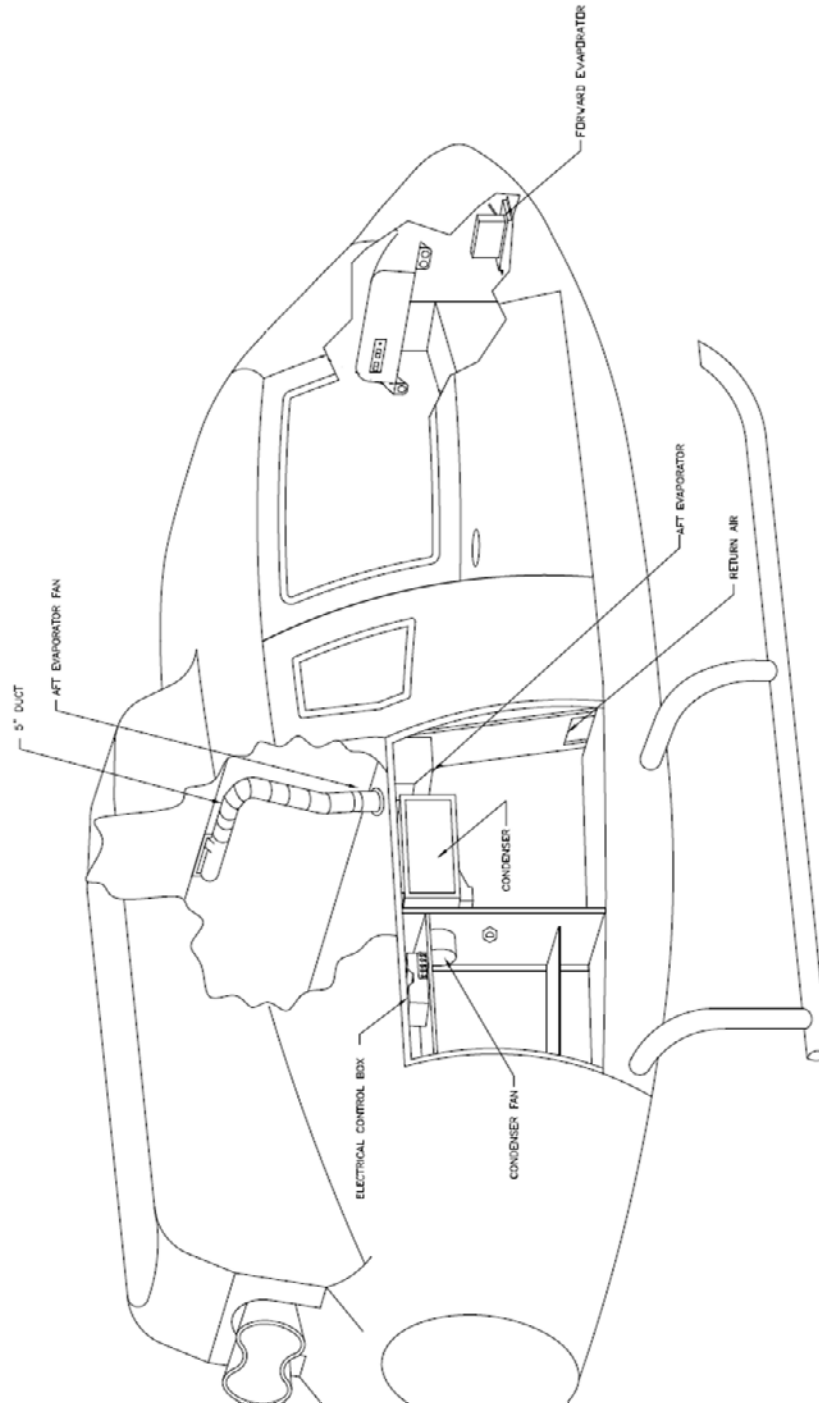

Figure 6-01: Side Mounted Condenser Configuration
##### a) Access Item Identification (Ref. figures 6-01 & 6-02)
- **Condenser-** The condenser is located in one of two positions depending on kit part number (Ref. Section 21.00.00 System Description). The aft mounted condenser (Kit numbers 350-00-031HP and 130-00-031HP) (Ref. figure 6-02) is mounted in the tail boom mounted 5 in. above the baggage floor and is accessed by removing the tail boom closeout panel. The side mounted condenser is located in the right baggage compartment (Ref. figure 6-01) and is accessed by removing to baggage compartment close out panel.